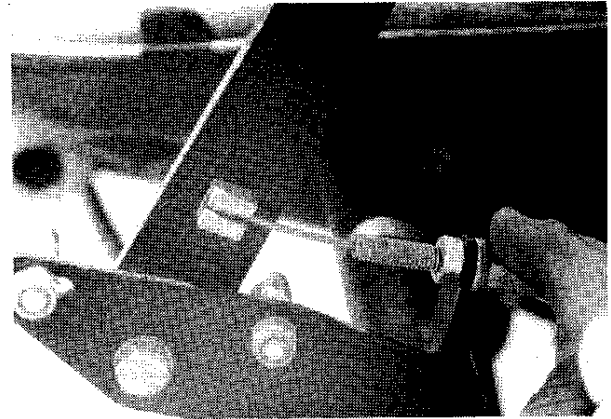

Figure 2.62
70. Press throttle cable into cable swivel on throttle lever assembly. Secure end by pulling cable aft. **Figure 2.62**